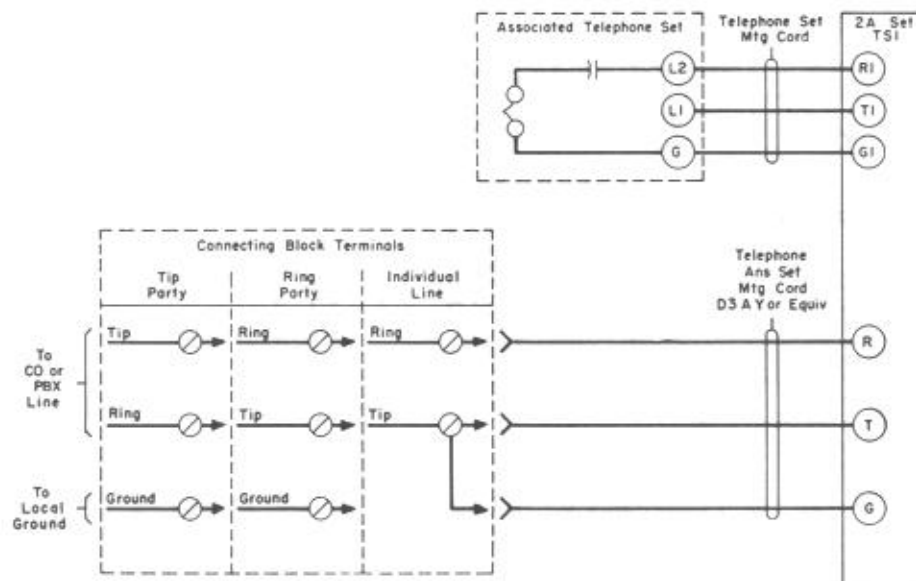

Fig. 16 — Station Connections for Individual Line, 2-party Selective, Flat or Message Rate, Manual or Dial
8.04 The 2A telephone answering set should be connected as shown in Fig. 16, 17, and 18.